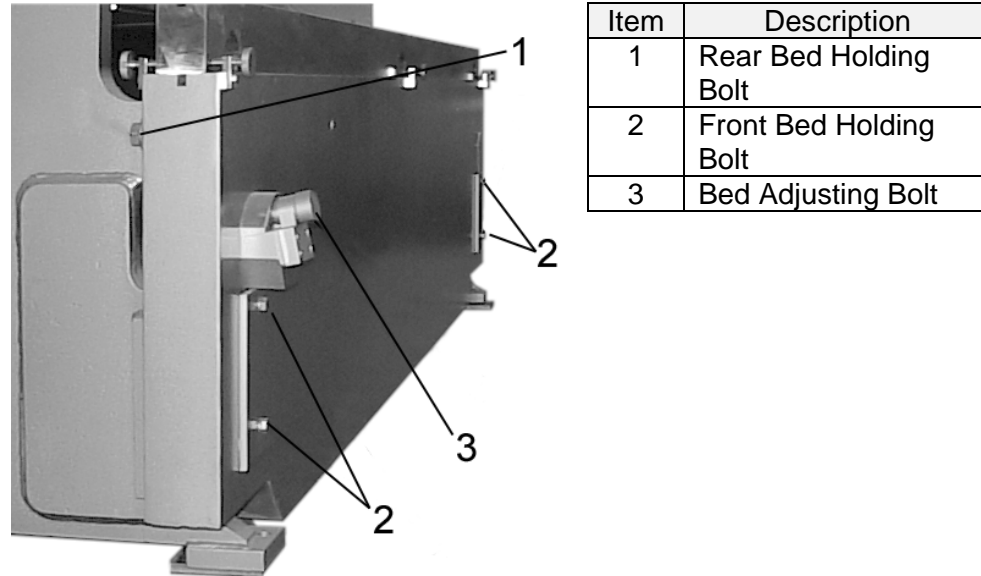

Figure 9: Bed Tilt Wedge Assembly
1. To adjust the bed, loosen the six bed holding bolts. Two are located on the rear side of the bed, one on each end of the press. The other four are located front side of the bed, two on each end of the bed. (See Figure 9 Items 1 & 2).
2. Rotate the adjusting bolt clockwise to lift the bed and counterclockwise to lower. (See Figure 9 Item 3).
3. Snug the bed holding bolts. The bed holding bolts should only be snug enough to compress the lock washers, but should not be over tightened. (See Figure 9 Item 1 & 2)